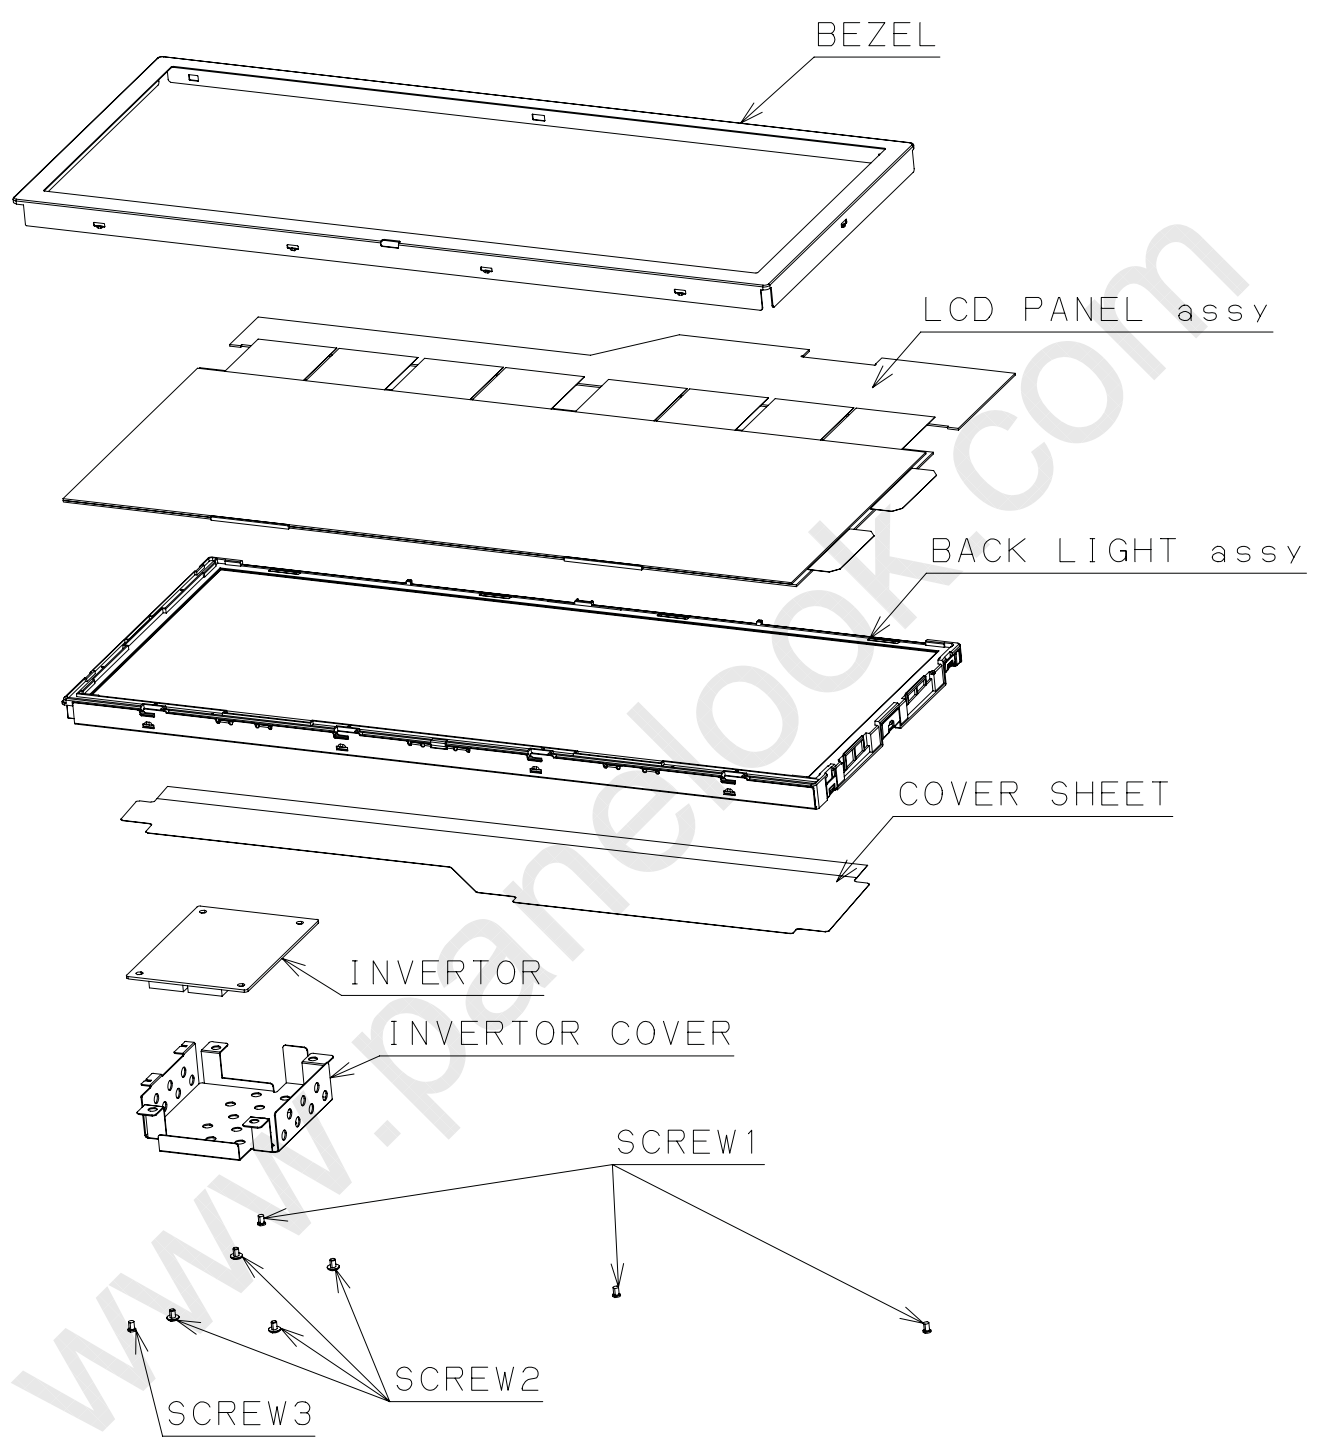

FIG4.Module Diagram
- 9) Please refer to Figure 4 for the assembly form of the module ,and refer to Figure 5 for lot No. of the back of the module.